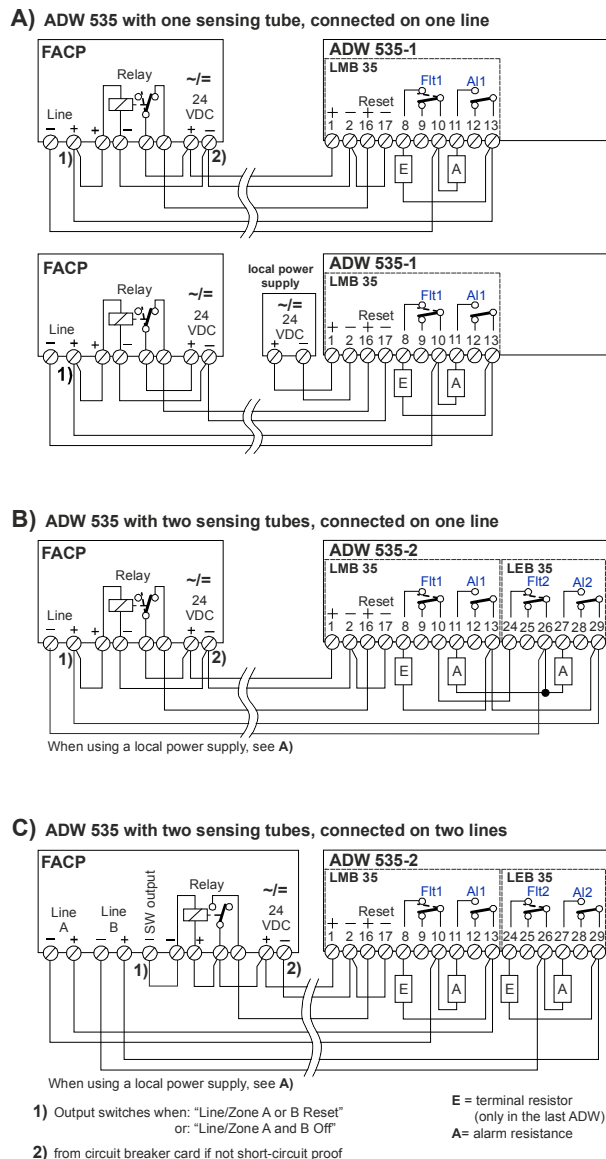

Fig. 26 Connection to zone detection
- For connection to zone detection lines, the control relay is usually actuated from the line plus. A condition for this, however, is that the line plus also switches for “Zone ON/OFF” and “Reset” (see Fig. 26, C), for exception).
- Connection as shown in Fig. 26, B), is used exclusively when the FACP line is to operate with **2-detector dependency (V-AI / H-AI)** from sensing tube I and II. For that purpose the FACP line is programmed for 2-detector dependency. Both sensing tubes of the ADW then cover the **same monitored area**.
- When connecting as shown in Fig. 26, C). Alarm I and Alarm II can be evaluated in the FACP as independent zones from two independent monitoring areas. A **2-line dependency** can also be programmed in the FACP. Then the same applies as under B): both sensing tubes from a monitored area.
- If the connection as in Fig. 26, C) is used, the control signal for the reset input can no longer be picked up from the line plus; instead, a software output has to be created with the following programming: